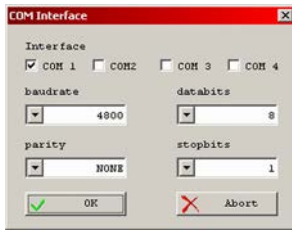

Fig. 205: COM port setting
2. Configure the COM port ( Fig. 205).